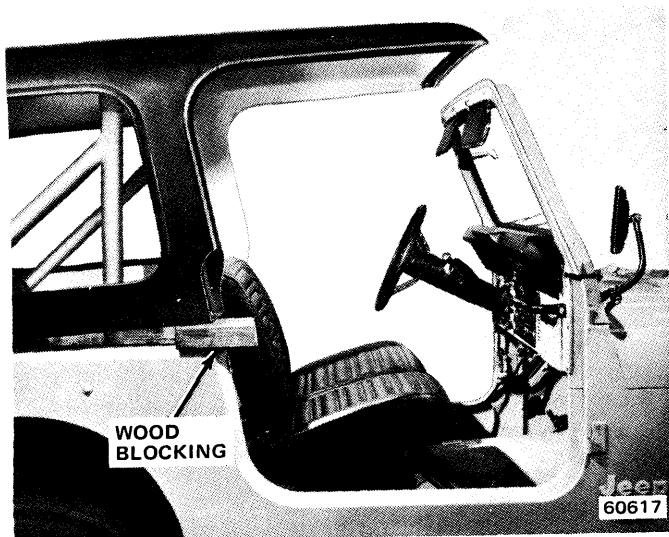

Fig. 18-3 Hardtop Enclosure Supported with Wood
- (1) Disconnect battery negative cable.
- (2) Remove screws attaching steering column bezel to instrument panel. Remove bezel.
- (3) Disconnect emergency brake bracket from instrument panel.
- (4) Disconnect speedometer cable.
- (5) Disconnect heater control cables from damper door levers.
- (6) Remove windshield clamp knobs and brackets.
- (7) Remove crash pad, if equipped.
- (b) If equipped with a hardtop enclosure, remove hardware attaching enclosure to windshield and rear quarter panels and support enclosure with wood (fig. 18-3).
- (8) Disconnect all electrical connections.
- (9) Remove steering wheel (refer to Section 11).
- (10) Remove automatic transmission shift lever, if equipped.
- (1) If equipped with a soft top, unsnap top snaps at windshield corners, unfasten straps at center and sides of front top support, lay top support back to rear and release top from header retainer.
- (2) If equipped with a hardtop enclosure, remove hardware attaching top to windshield and rear quarter panels and support top with wood (fig. 18-3).
- (3) Remove windshield clamp knobs and fold windshield down onto hood.
- (4) Remove screws attaching crash pad and remove crash pad.